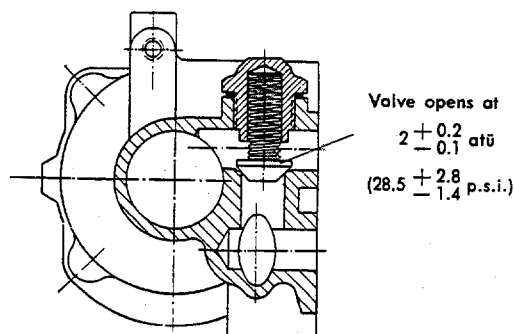

Fig. M 53/7a
- 7a. After oil relief valve has been checked, install it again (Fig. M 53/7a). Do not forget the sealing ring.